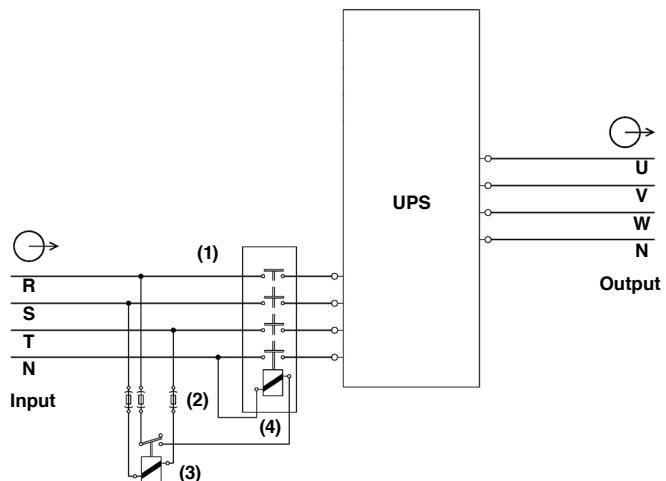

Fig. 15. *Backfeed protection connection in installations with common bypass line (X-TRA-CB) and power ≤ 300 kVA.*
- **X-TRA-CB equipments (common bypass line) and power \leq 300 kVA, in accordance with safety standard EN-IEC 62040-1, installation has to be provided with a «Backfeed protection» system, as for example a contactor, which will prevent the appearance of voltage or dangerous energy in the input mains during a mains fault (see figure 15). For powers >300 kVA the UPS has the "Backfeed protection" as standard.**